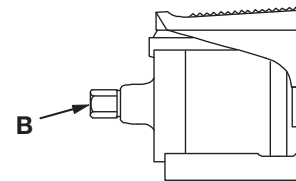

Figure 5
1. See Figure 5. Connect a 9 CFM [15 m³/h] (minimum) air supply source to the 1/4"[0,5 cm] NPTF pump air inlet swivel connector (B). Use only 1/4" [0,5 cm] hose or quick disconnect fittings. Larger, heavier fittings are not recommended. Use a high-grade pipe thread sealer to seal the connection.